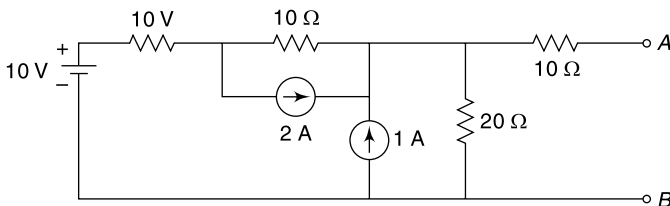

Fig. 4.132 Circuit of Ex. 4.101
4.101 Find Norton's equivalent circuit at terminals A and B for the network shown in Fig. 4.132 and hence determine the power dissipated in a 5Ω resistor to be connected between terminals A and B .